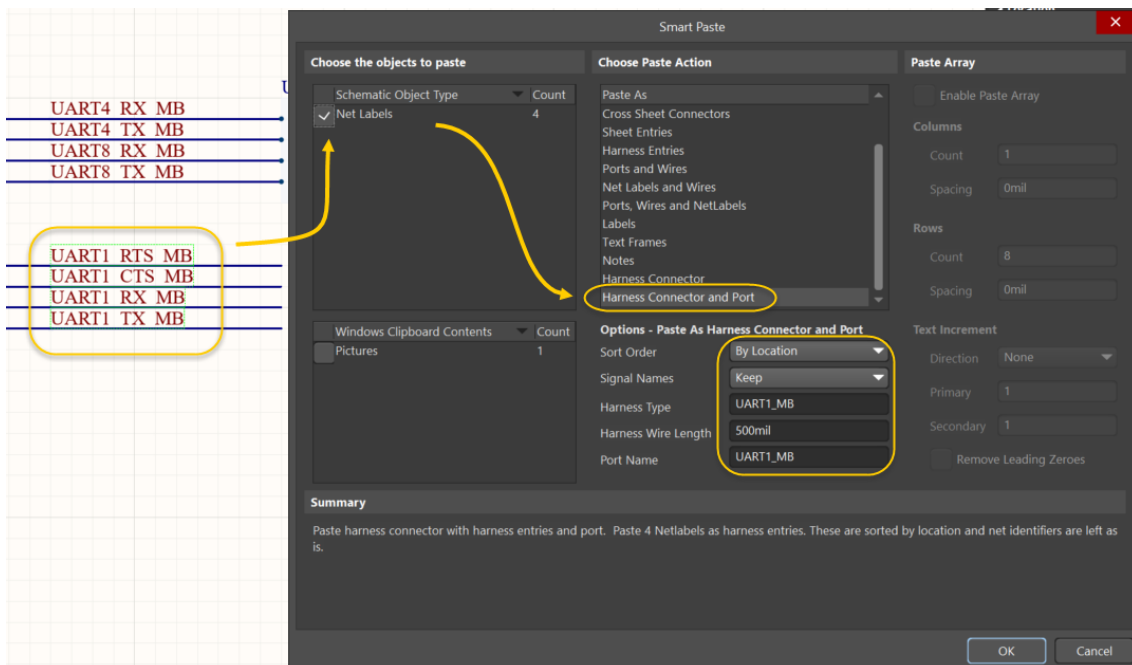

Figure 15. Harness creation based on netlabel
35. Using Figure 15 on the following page as a reference, select the following UART1 Net Labels below component RN3:
38. Using Figure 15 as a reference, change the following settings in the *Smart Paste* dialog: